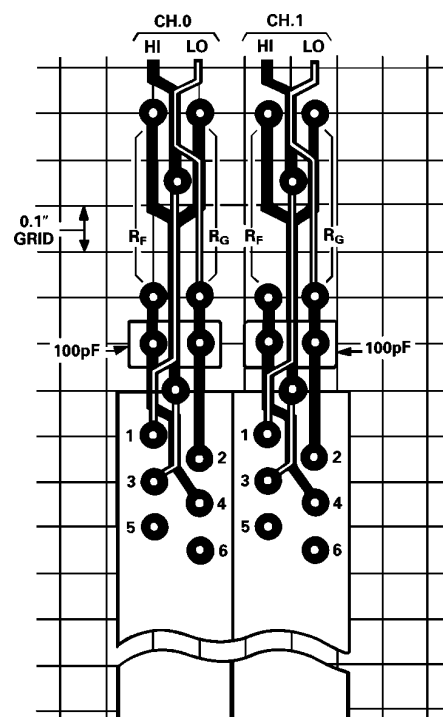
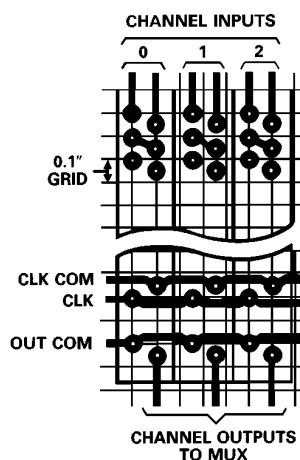

Figure 16b.
Figure 16a.
**PCB Layout for Multichannel Applications.** The pinout of the AD204Y has been designed to make very dense packing possible in multichannel applications. Figure 16a shows the recommended printed circuit board (PCB) layout for the simple voltage-follower connection. When gain-setting resistors are present, 0.25" channel centers can still be achieved, as shown in Figure 16b.